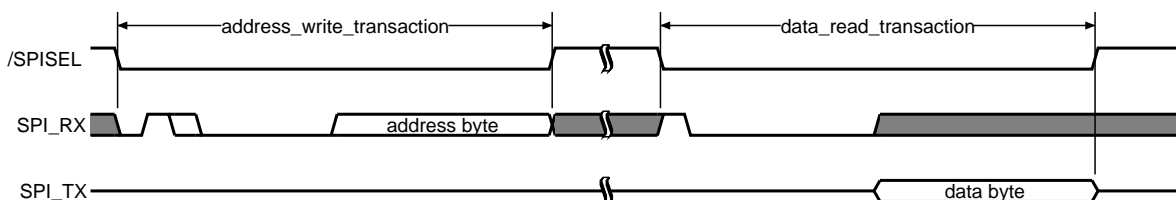

Figure 2.17: Register read access (transaction sequence)
1. A register read access is a sequence of one SPI write address transactions and one SPI read data transaction as shown in Figure 2.17. With the first transaction the SPI master specifies the register address (control byte is '01X0 CCCC'). Afterwards, XHFC-2SU transfers the register value to the SPI master (control byte is '1000 0000').
Figures 2.17 to 2.19 show $\text{/SPISEL} = '1'$ between the transactions. This splits the sequence into an address write transaction and one or several data read transactions. The split time has an arbitrary duration. It can also decrease to zero, which means that /SPISEL remains '0' for several transactions.